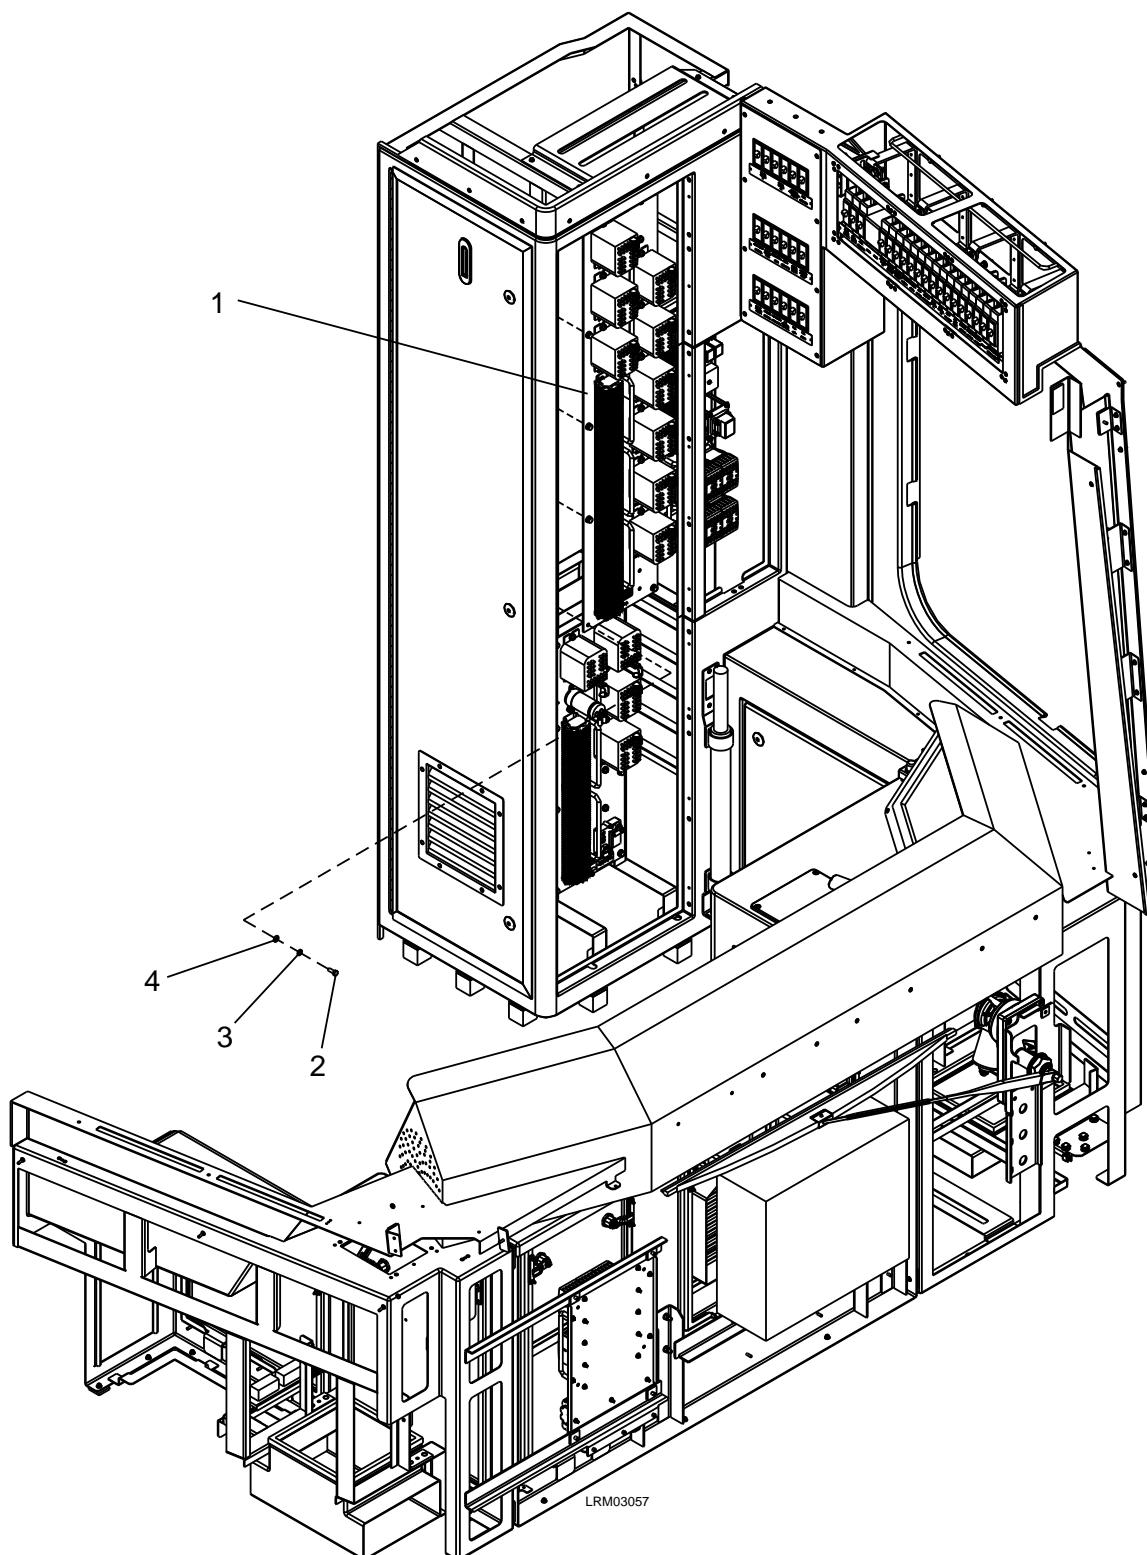

Figure 7-38: CRP1A and CRP1B Panel
2. Disconnect the WAGO terminal electrical connections to the CRP1A / CRP1B Panel (1). See Figure 7-38.
3. Remove the ten M6 x 16 bolt (2), M6 lock washers (3), and M6 plain washers (4).
4. Carefully remove the CRP1A / CRP1B Panel (1).